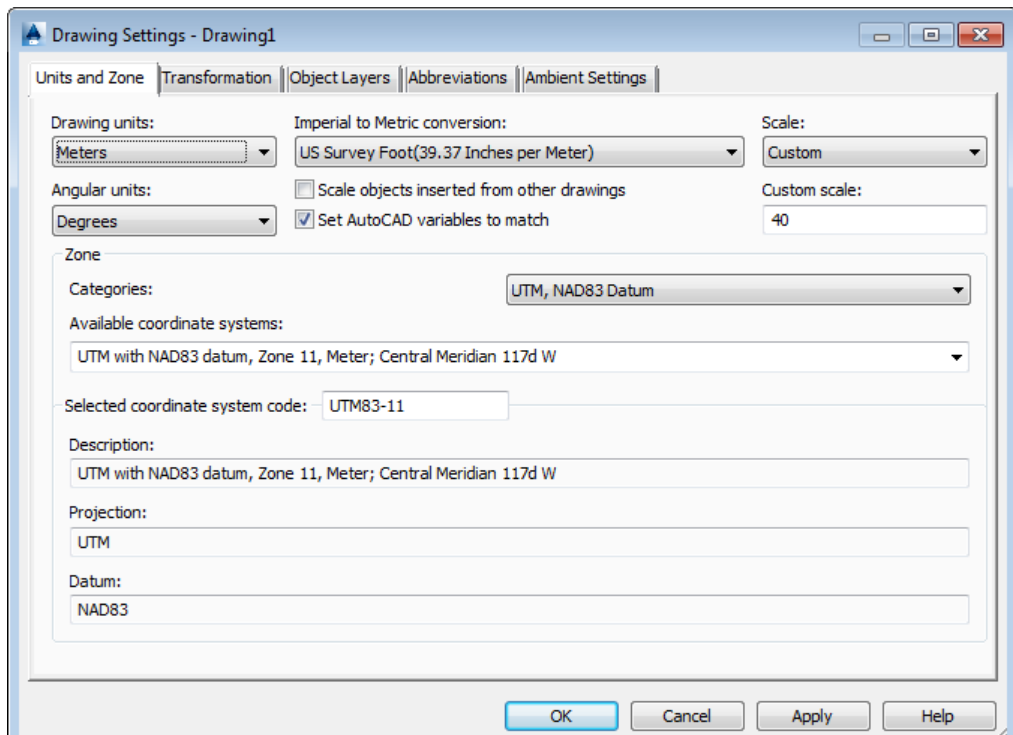

Figure 3-71 The settings in the **Units and Zone** tab of the **Drawing Settings - Drawing 1** dialog box
3. In the **Available coordinate systems** drop-down list, select the option **UTM with NAD83 datum, Zone 11, Meter; Central Meridian 117d W** and then choose the **Apply** button from the **Drawing Settings** dialog box. The drawing is set to UTM Zone 11 projection and the datum will be set to NAD 83, refer to Figure 3-71.